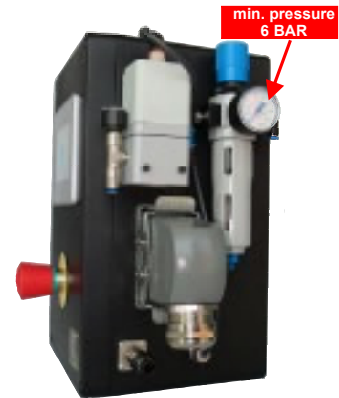

FIG. 1
1. Set the pressure to minimum 6 BAR by the manual pressure regulator (FIG. 1)